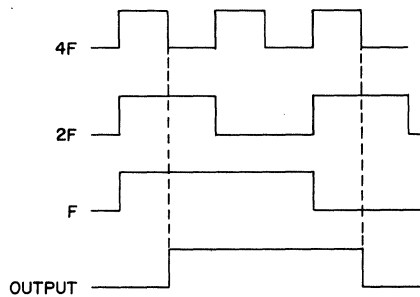

Figure 5-18 Delayed Reference Waveforms (804875)
The frequency detector is also used during normal operation for two additional purposes; (1) start-up time and (2) tape speed change. To do this, a frequency lock reference circuit processed three signals from the oscillator reference (F). The frequency lock reference circuit accepts three inputs (F, 2F, and 4F) from the divide-by-four circuit with timing relations as shown in figure 5-18. The output, which is applied to the mode select switch lags the reference by nominally 1/8 time period. This lag allows the frequency detector to operate at an optimum point.